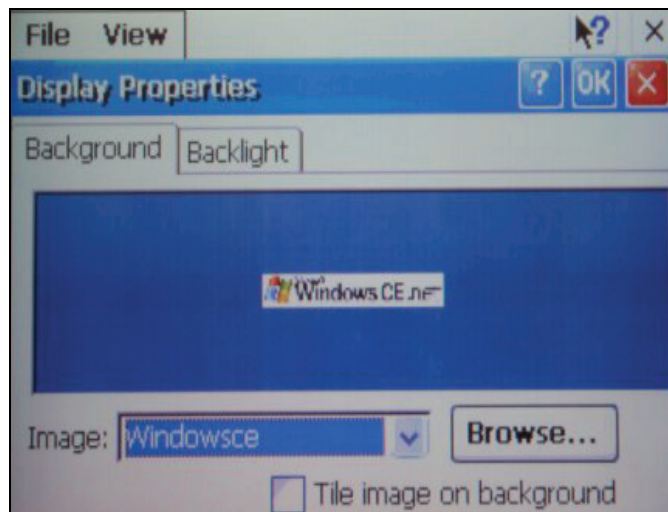

Figure 6-27
- Double press the Display icon. The window shown in Figure 6-27 will appear.